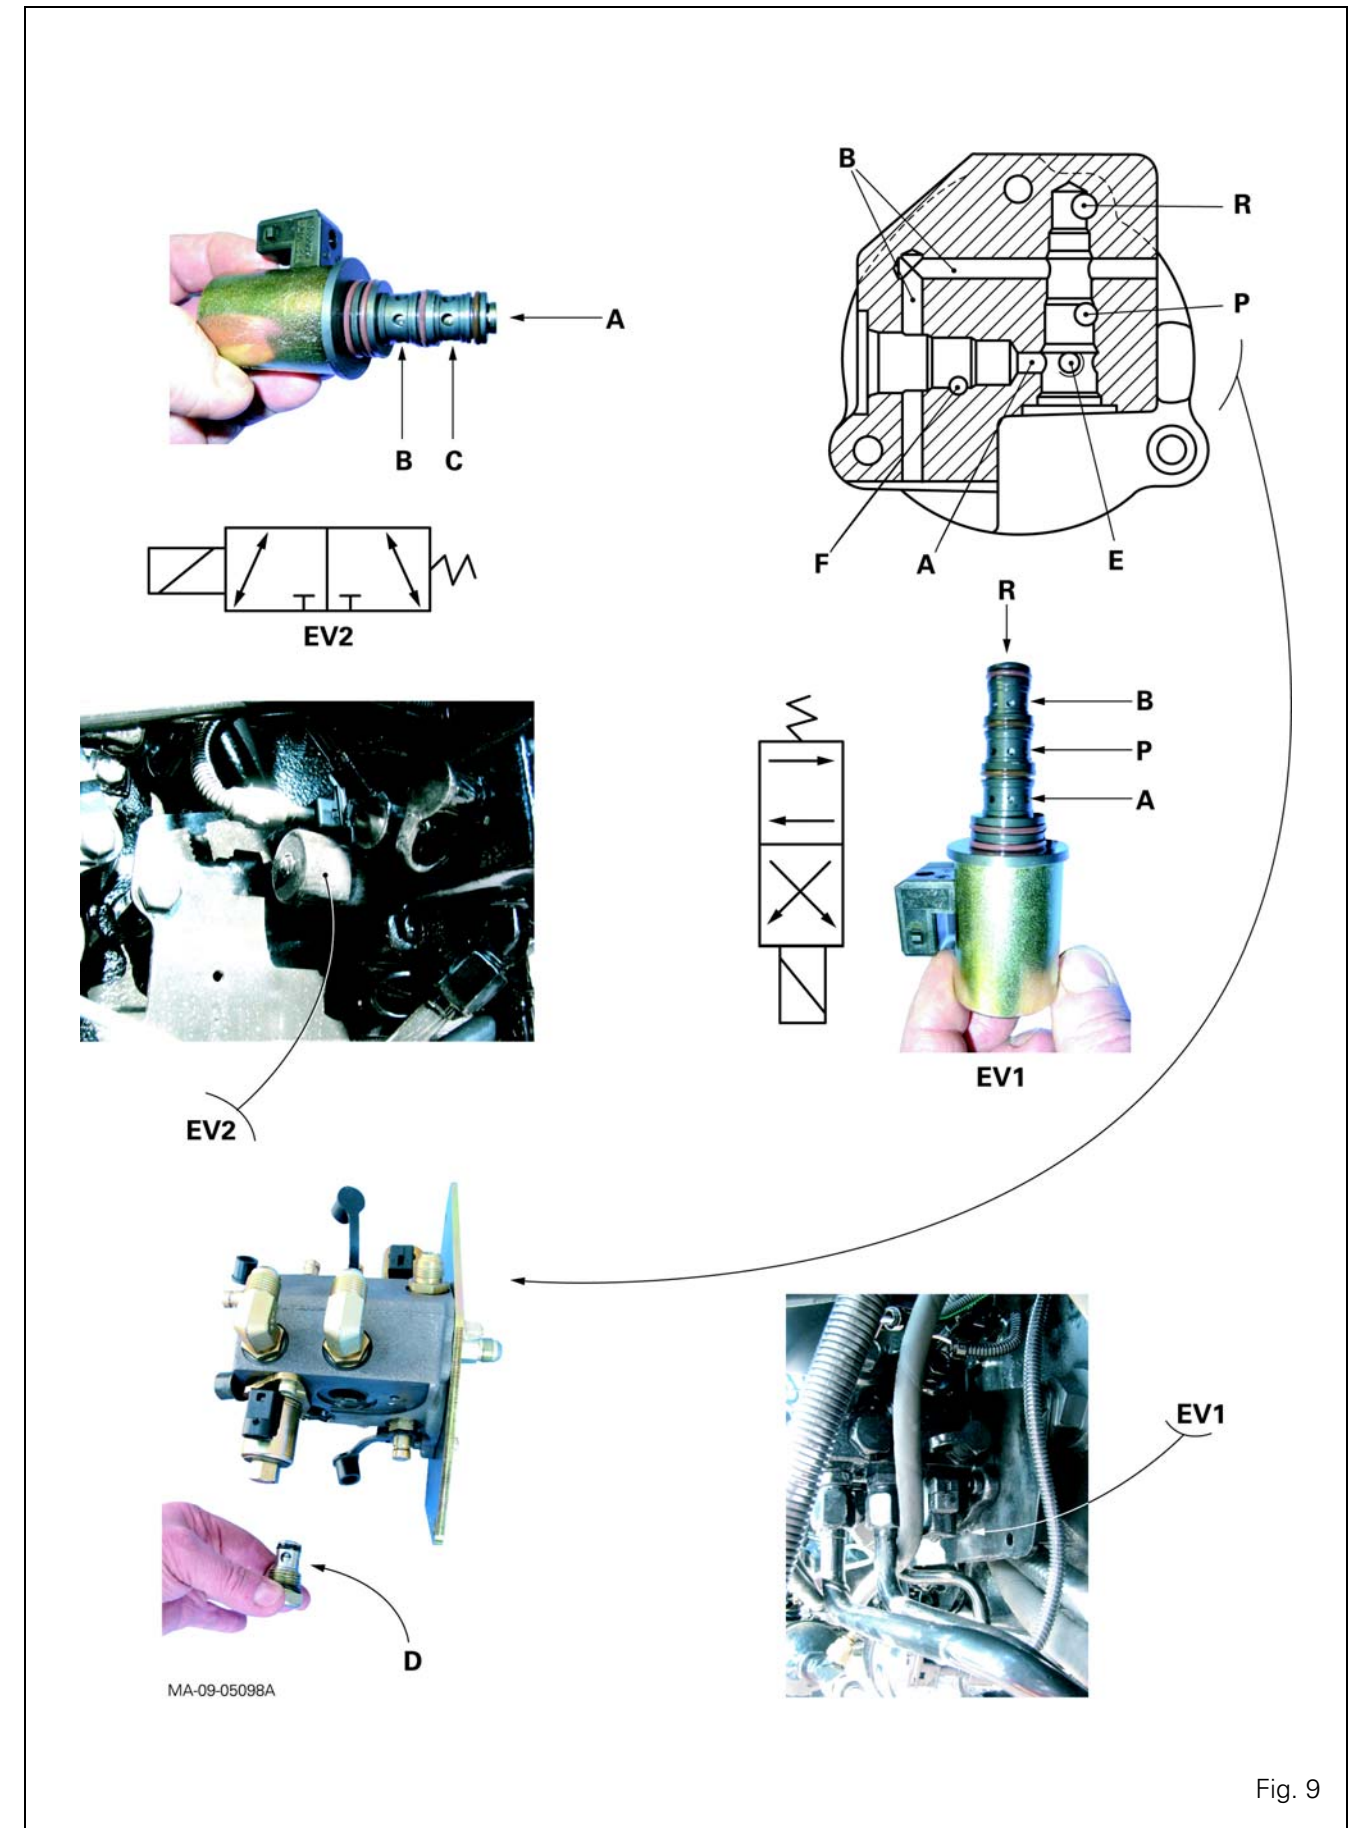

Fig. 9
Characteristics of the solenoid valves (Fig. 9)
Identification of ports (Fig. 9)
6. Mark and disconnect the connectors on solenoid valves EV1 and EV2 of the Dynashift (Fig. 9) as well as those of the proportional solenoid valves (12) (11) of the power shuttle forward and reverse clutches (Fig. 3).